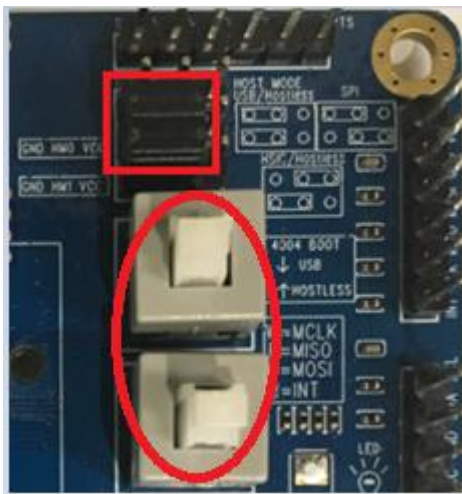

Figure 3-1
- 1、USB Mode: user can download and calibration LTP1218 through USB mode, just push the button J3 and J6 or jumper J1 and J2 (**Figure3-1**)